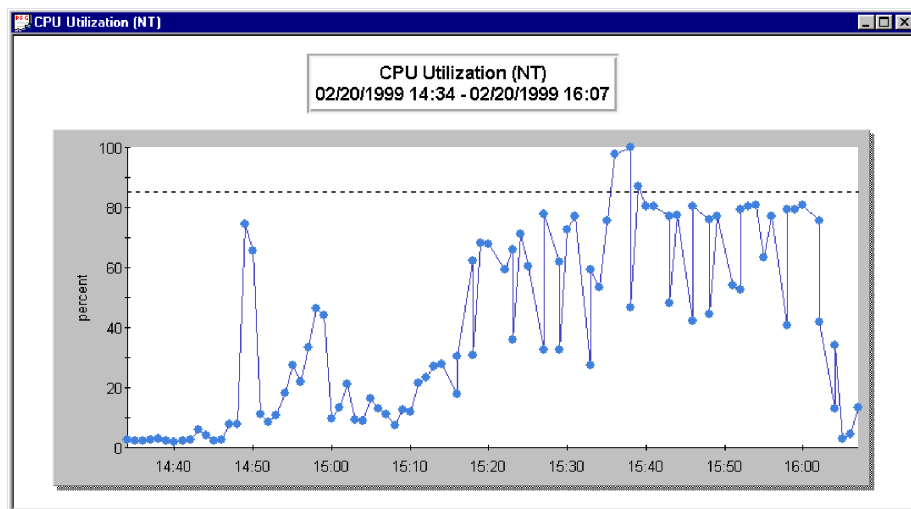

Figure 5.16 CPU Utilization graph with Averaging set to 1 minute and a marker at 85%.
- 8 Click **OK**. You should see a considerable difference in the graph (see Figure 5.16). All the data points that had been collected at 15-30 second intervals have now been averaged into one minute interval data points. Also notice that now only three data points are above the 85% threshold line.